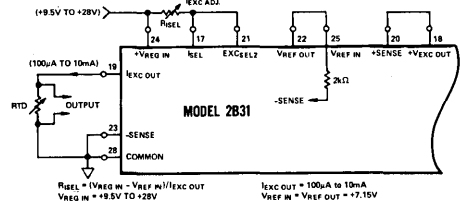

Figure 3. Constant Current Excitation Connections (VCOMPL = 0 to +5V)
**Current Excitation Programming:** The constant current excitation output can be adjusted between 100µA to 10mA by two methods with the 2B31. Figure 3 shows circuit configuration for a current output with the maximum voltage developed across the sensor (compliance voltage) constrained to +5V. The value of programming resistor RISEL may be calculated from the relationship: RISEL = (VREG IN - VREF IN)/IEXC OUT.